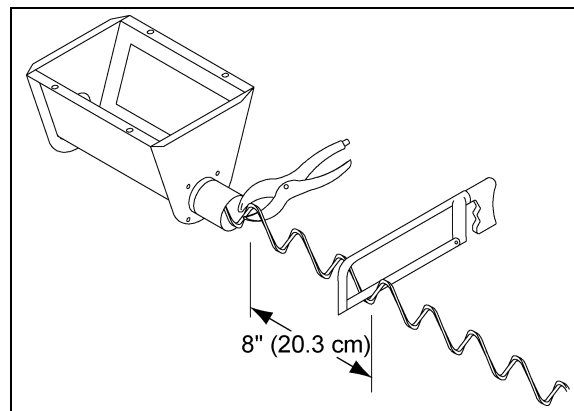

Figure 5W Cutting the Auger
8. For ease of trimming the auger, pull the auger out an additional 8" (20.3 cm) past the mark and clamp it at the unloader. This clamping releases tension at the mark and thus eases cutting. (See Figure 5W.)